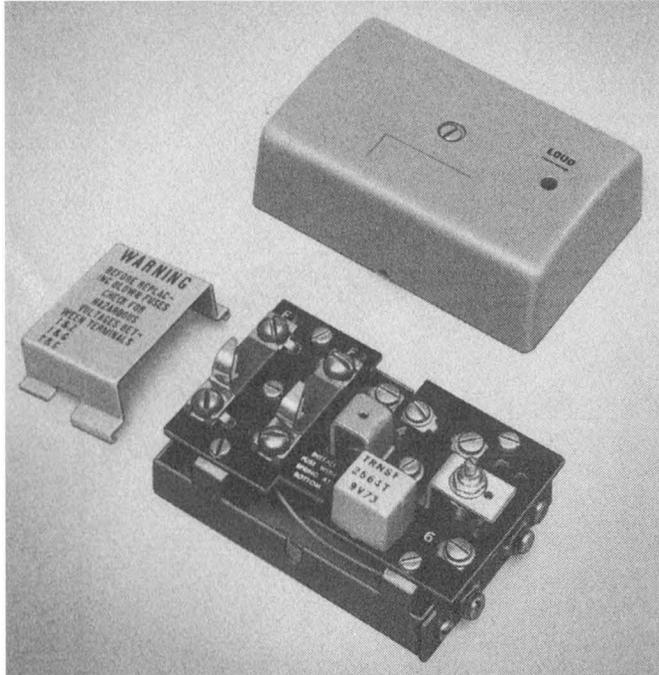

Fig. 12—33A Voice Coupler
- (1) Remove cover from coupler.
- (2) Mount coupler at location which permits customer to make connections and also allows connection to system.
- Caution:** Ensure that 35P fuses are installed with the spring at the bottom (Fig. 12) and set the volume control at approximately mid-range.
- (3) Connect primary station(s) to the voice coupler per Table C.